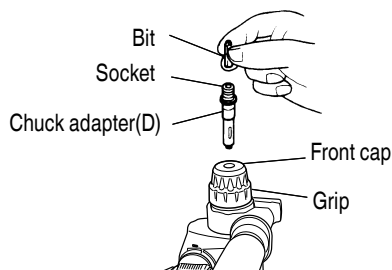

Fig. 18
## 4. When driving machine screws (Fig. 18)
5. When driving wood screws (Fig. 18)